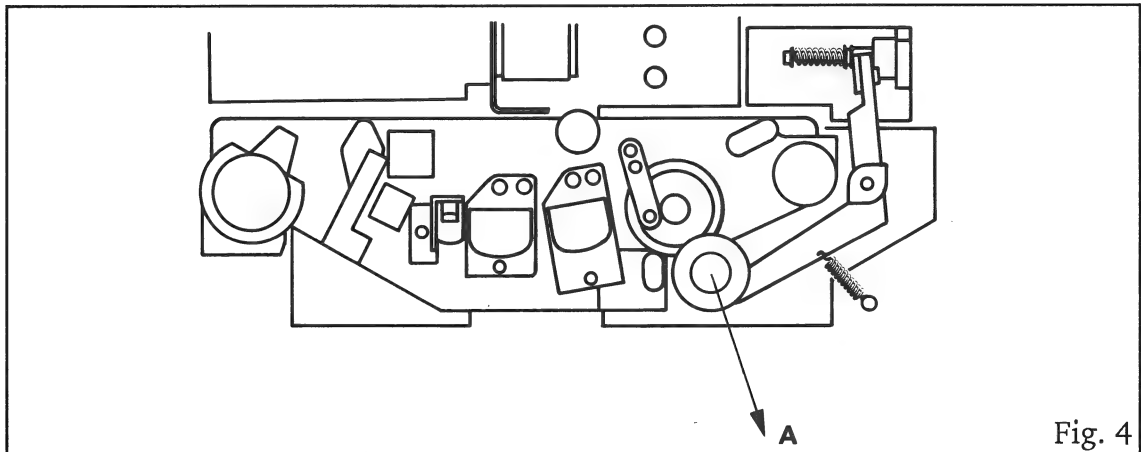

Fig. 4
- Attach a piece of nylon string to the pinch roller shaft (or a pin attached to it), connect the other end of the string to the spring dynamometer and pull the latter in the direction A (Fig. 4) until the pinch roller lifts off the capstan shaft. The spring dynamometer should give a reading of 10 N \pm 1 N (1 kp \pm 0.1 kp).